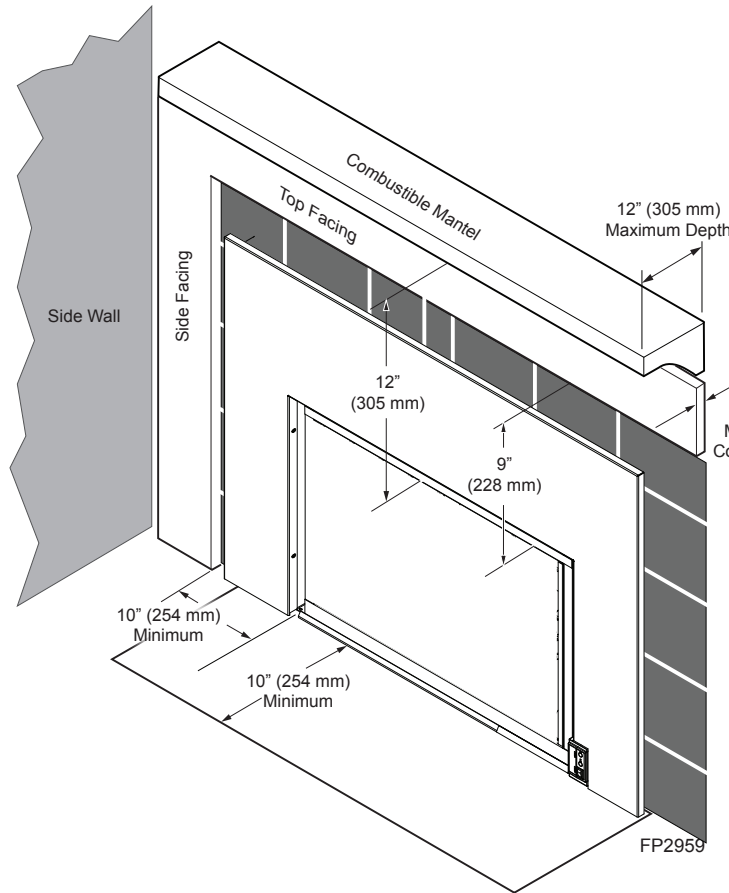

Figure 3 - Mantel Clearances
- Minimum clearances to combustibles, such as mantels, must be maintained. *Refer to Pages 8 and 9, Figures 3, 4 and 5.*
WARNING The dimensions shown on Pages 8 and 9, Figures 3 and 4, are minimum clearances to maintain when installing this heater. Follow these instructions carefully to ensure safe installation. Failure to follow instructions exactly can create a fire hazard.